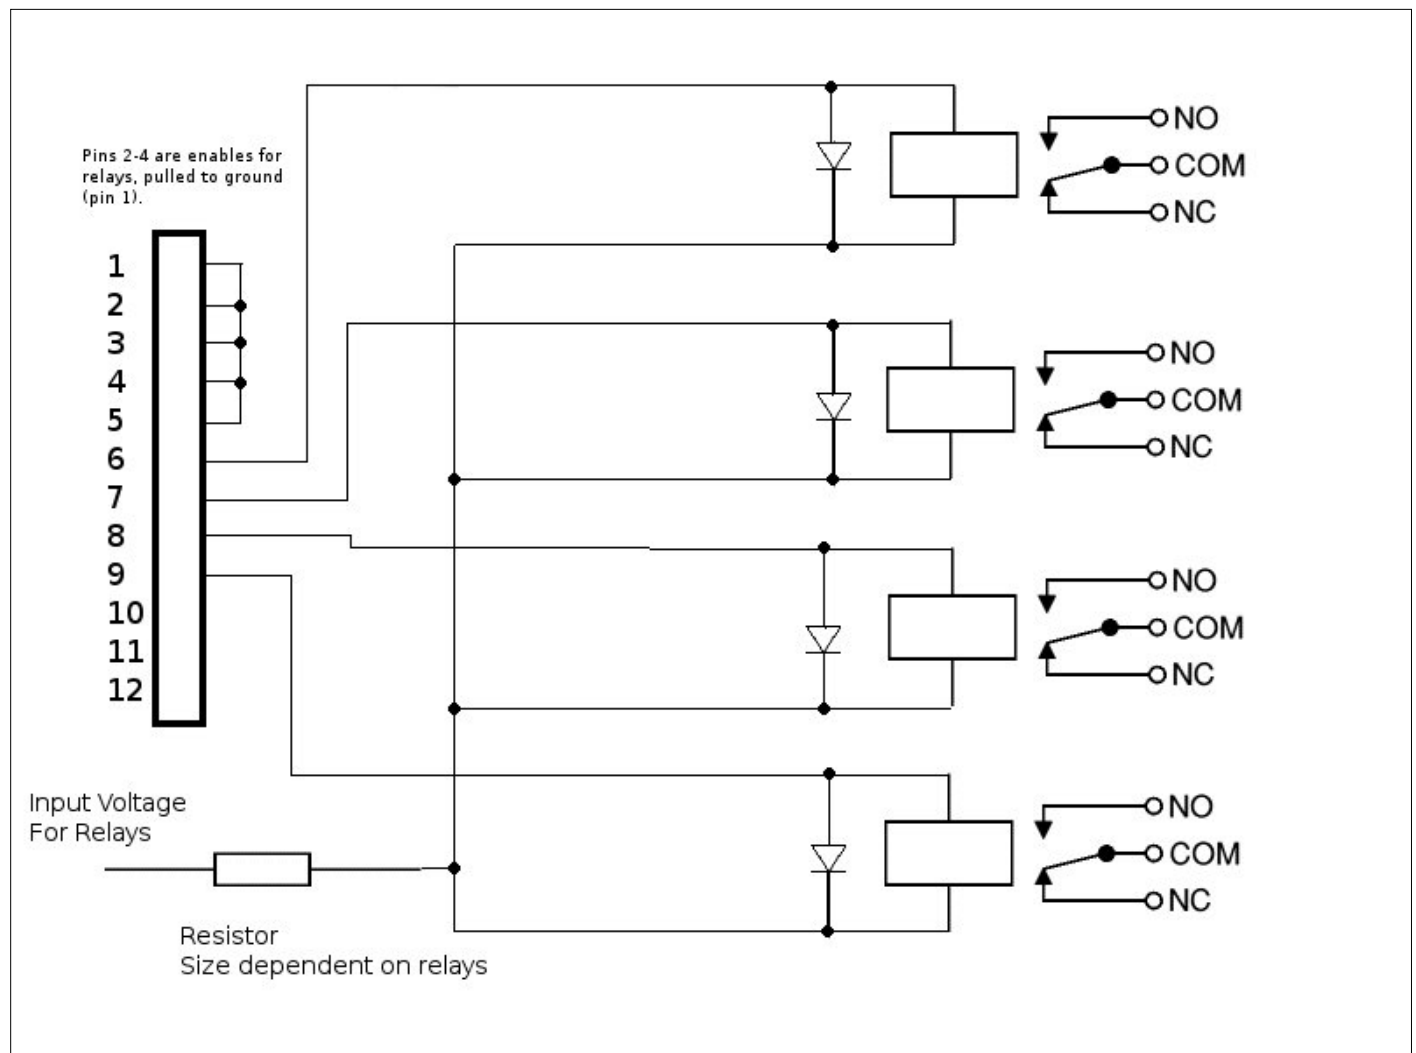

Figure 33
- The *1-4 Button/Lamp interface port (J13)* is used to setup the four relays or card dispensers (Figure 33)
To use the *1-4 Button/Lamp – J13* and the *5-8 Button/Lamp – J14* interface the U7 chip (UDN2695) must be installed on the Raptor II board. **The UDN2695 chip can only support 350 milliamps.** If you need a higher current capability, then external relays must be installed as shown in figure 33.